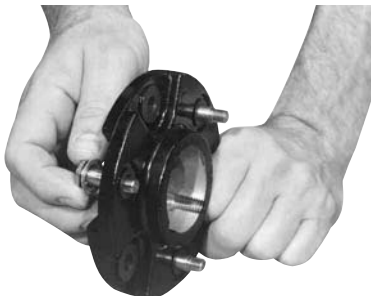

Figure 8
Step 3 Insert half of the compressed drive pins through the armature hub. The threaded end of the pins must come through on the side of the hub with grooves around the holes. (Figure 8)